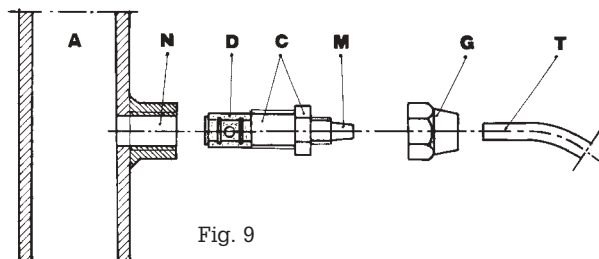

Fig. 9
- g. - Select the most appropriate injection point on a pipe of the plant to be treated and there fit a 3/8" female gas thread connector (similar to BSPm). This connector is not supplied with the pump. Screw the injection valve to the gas connector, inserting a gasket as shown in Fig. 9. Then connect the discharge hose to the conical connector on the injection valve and fix it with the supplied tube nut G. The injection valve also acts as no return valve by means of a cylinder sleeve (elastomer, standard supplied in Viton).
DIAGRAM Fig. 9